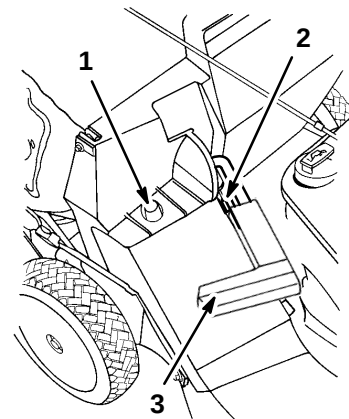

Figure 13
2. Ensure discharge door handle is fully forward and pin is engaged in catch (Fig. 13).
3. **INSTALLING BAG**—Slide hole in bag frame onto retaining post on discharge tunnel (Fig. 13). Set rear of bag frame onto lower handle.
5. EMPTYING BAG—Stop engine and wait for all moving parts to stop. Raise discharge door handle and move it forward to engage the locking pin with the catch (Fig. 13). Grasp handles at front and rear of bag and lift bag off mower. Gradually tip bag forward to empty clippings.